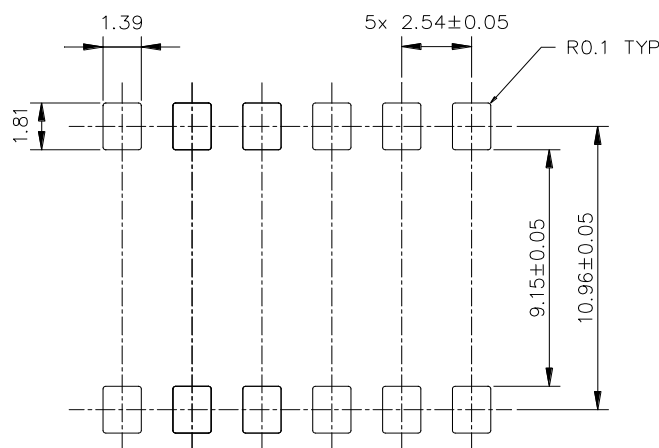

Figure 10. Recommended PCB footprint
**Read temperature data register (RWTR)** reads temperature data register during normal operation without affecting the operation. The temperature data register is updated every 150  $\mu$ s. The load operation is disabled whenever the CSB signal is low, hence CSB must stay high at least 150  $\mu$ s prior to the RWTR command in order to guarantee correct data. The data transfer is presented in Figure 10 below. The data is transferred MSB first. In normal operation, it does not matter what data is written into temperature data register during the RWTR command and hence writing all zeros is recommended.